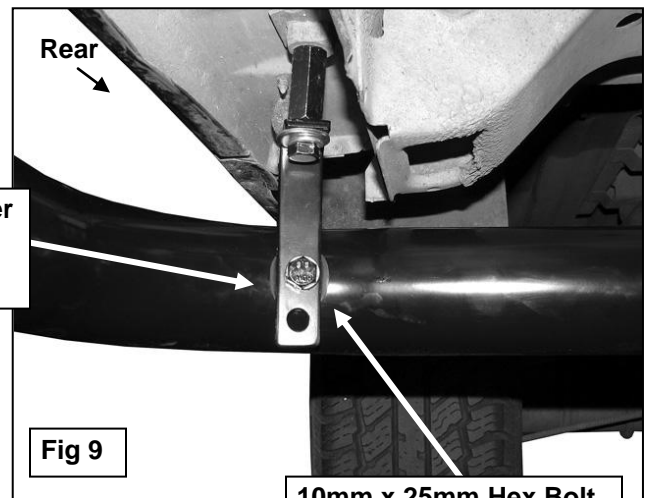

Fig 9
6. Level and adjust the Sidebar and tighten all hardware. Line up one of the two holes in the Support Bracket with the threaded insert in the inside of the bend in the Sidebar. Insert (1) Rubber Washer between the Support Bracket and the Sidebar. Bolt the Bracket to the Sidebar with (1) 10mm x 25mm Hex Bolt, (1) 10mm Lock Washer and (1) 10mm Flat Washer, **(Figure 9)**. Tighten all hardware at this time.